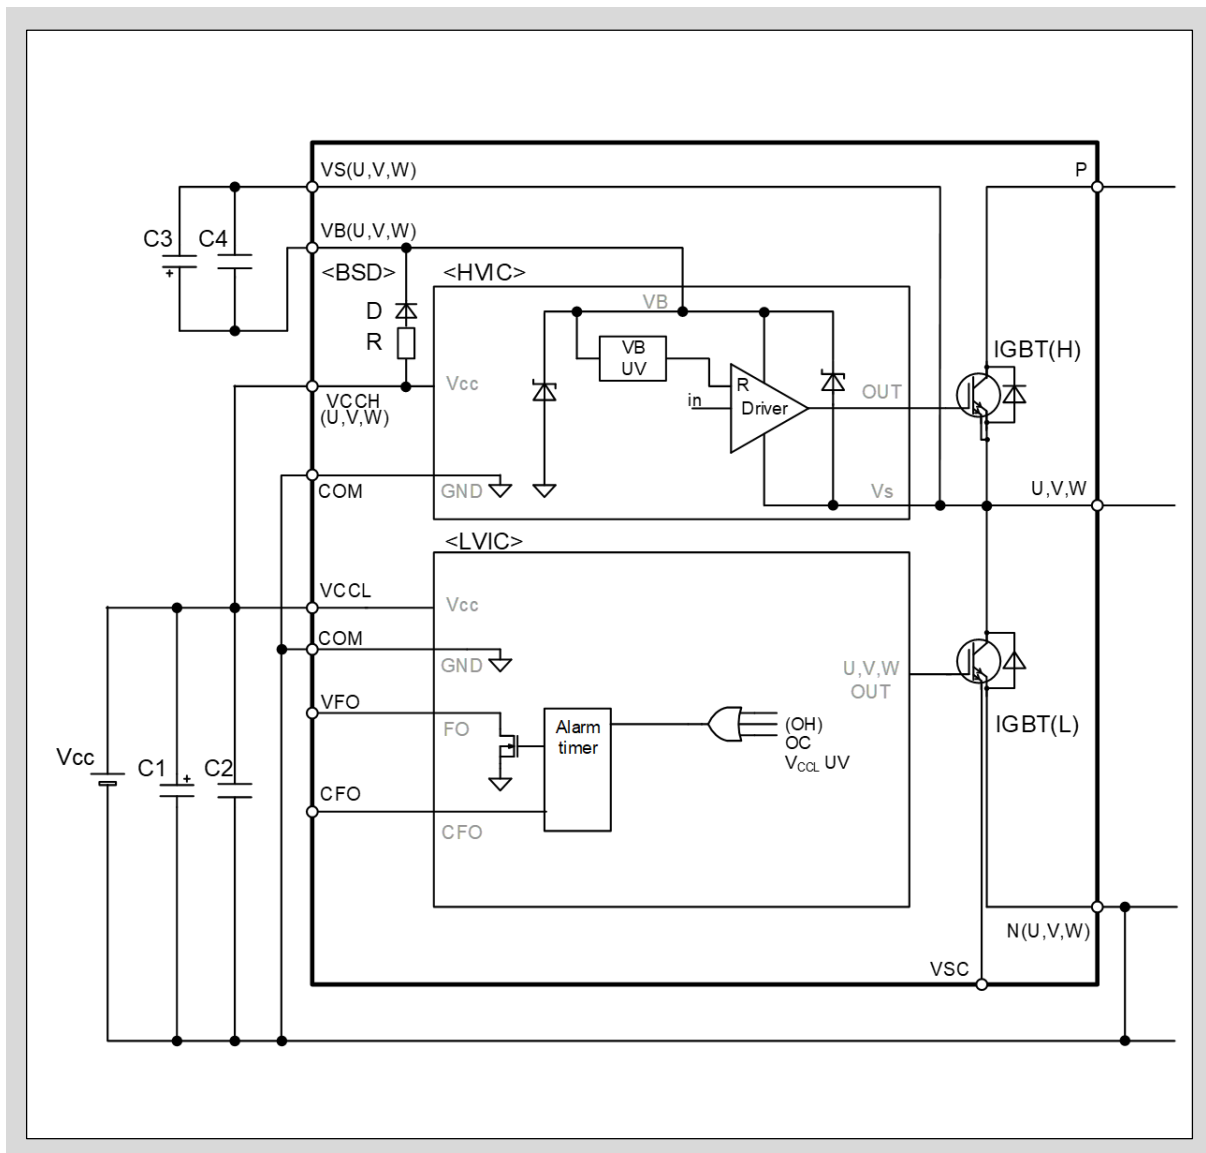

Fig. 3-4 UV protection circuit of high-side bias voltage
- Fig.3-4 shows the UV protection circuit of high-side bias voltage $V_{B(*)}$.
- As shown in Fig.3-4, diodes are connected to the $VB(U,V,W)$, $VS(U,V,W)$ and $VB(U,V,W)$ -COM terminals. These diodes protect the product from input surge voltage. Do not use these diodes for voltage clamp purpose otherwise the product might be damaged.